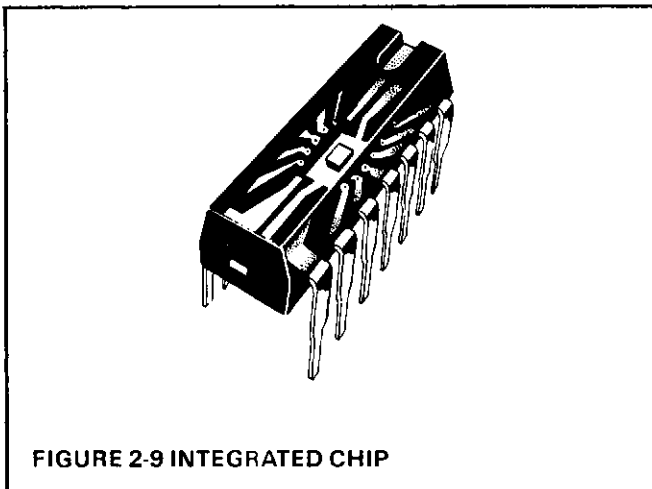

FIGURE 2-9 INTEGRATED CHIP
The integrated circuit (IC), Figure 2-9, is a complete electronic circuit consisting of miniature resistors, transistors, and diodes. These miniature components and the related electrical wiring are contained and formed within a single, very small silicon chip mounted in one common case.